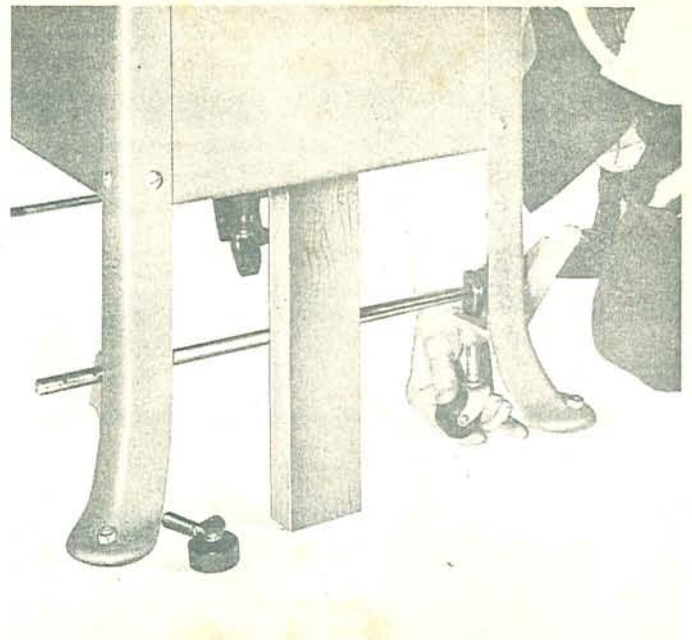

Figure 5
6. Tilt machine stand by placing a 2 x 4 under it so that the steel stand legs will be off of floor about 2 inches, as shown in Figure 5. Place caster mount bracket with shaft and foot lever inside and under steel stand leg and put flat head machine screw through the holes in steel leg and bracket from the bottom and apply washer and nut, however, do not tighten too securely. Next, place spring washer on shaft and also fibre washer DSS-36 and assemble caster mount bracket on opposite end of shaft and place bracket on inside of steel leg and fasten in place with flat head machine screw washer and nut. Now tighten both nuts securely. This same method of application is to be followed in assembling shaft to opposite pair of steel legs.